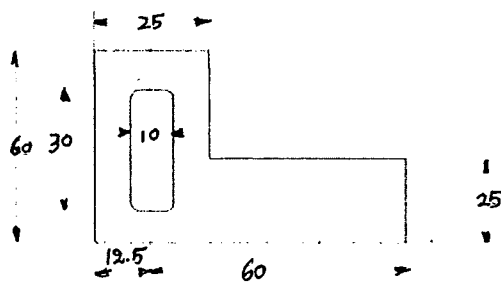

Fig.11
- 11 Design and draw two views of a progressive die for producing the component shown in Fig.11.The sheet metal is of 1.63mm thickness and made of Cold Rolled Steel of Ultimate Strength 580 N/mm² 16